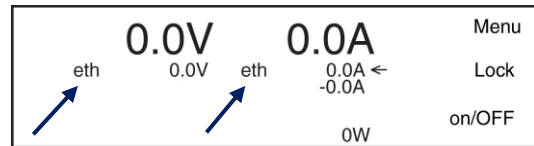

Figure 7.21: The programming source appears before the settings. In this example both CV and CC settings are controlled via Ethernet.
- The second line shows the settings of the controls for the voltage and current. If the unit is in local operation, the text 'front' is indicated before the settings values. If the unit is set to remote programming, for example Ethernet programming, the text 'eth' is indicated. See fig. Figure 7.17 to Figure 7.21.
- Before the set values, the selected source is shown, see Figure 7.21. For example, 'eth', 'web', 'seq', 'slot1' etc.